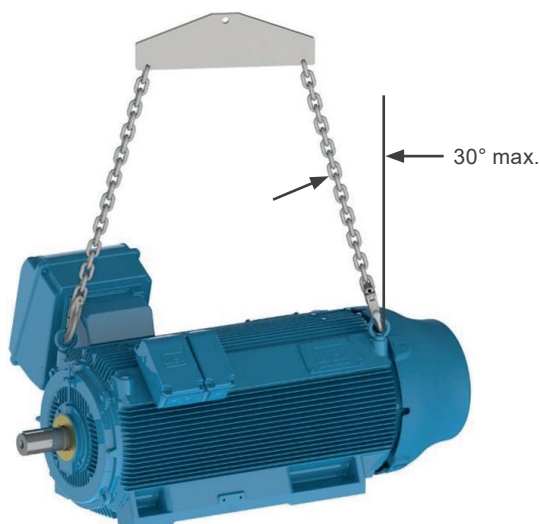

Figure 4.5: Maximum resulting angle for horizontal HGF, W40, W50 and W51 HD motors
- For HGF, W40, W50 and W51 HD motors, as shown in Figure 4.5 on page 14, the maximum resulting angle should not exceed 30° in relation to the vertical axis.